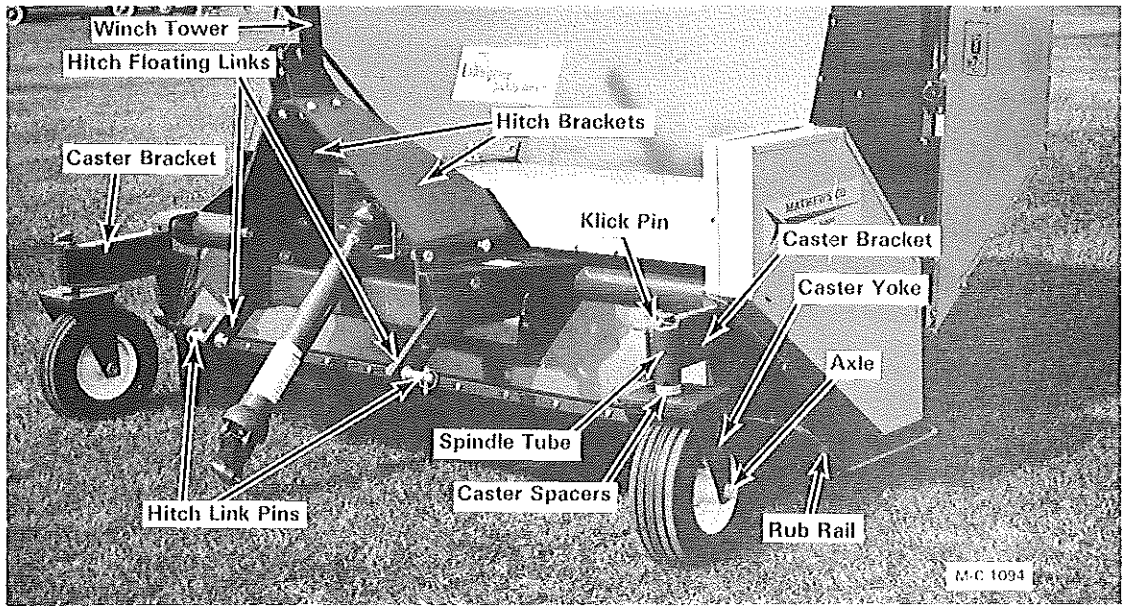

Figure 5
2. Place one  $1\text{-}\frac{7}{16}$ " ID x 2" OD caster spacer on each caster yoke spindle and secure the caster yokes with  $\frac{5}{16}$ " click pins, see Figure 5.
1. Remove the hitch floating links from their shipping position and install them as shown in Figure 5. The cut off corner is to be up and to the rear. The head of the capscrew goes to the outside.
2. Install the hitch brackets on the Lawn Genie body, see Figure 5. Secure with  $\frac{5}{8}$ -11 x  $1\frac{1}{2}$ " hex-head capscrews (grade 5), lockwashers and hex-nuts (three each side).
3. Install the winch tower between the hitch brackets with  $\frac{1}{2}$ -13 x  $1\frac{1}{2}$ " capscrews (grade 5), lockwashers and hex nuts, see Figure 5.